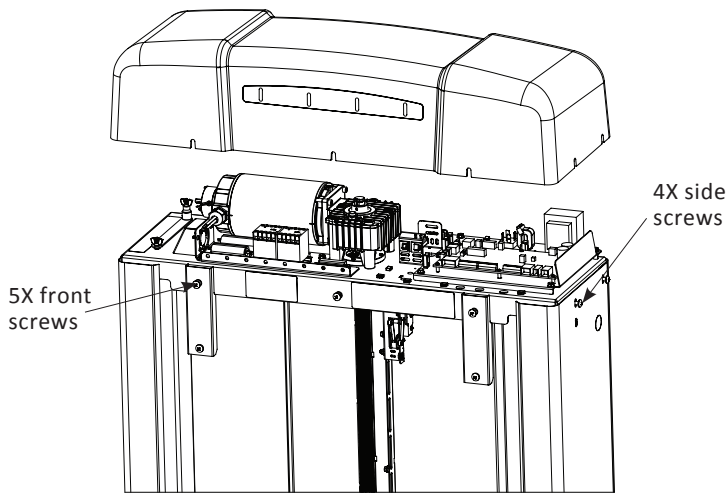

Figure 4-1
2. Remove the plastic top cap by loosening the four (4) side screws and lifting the top cap. This part will be replaced by the Stratos with enclosure metal top cap. *See Figure 4-1.*